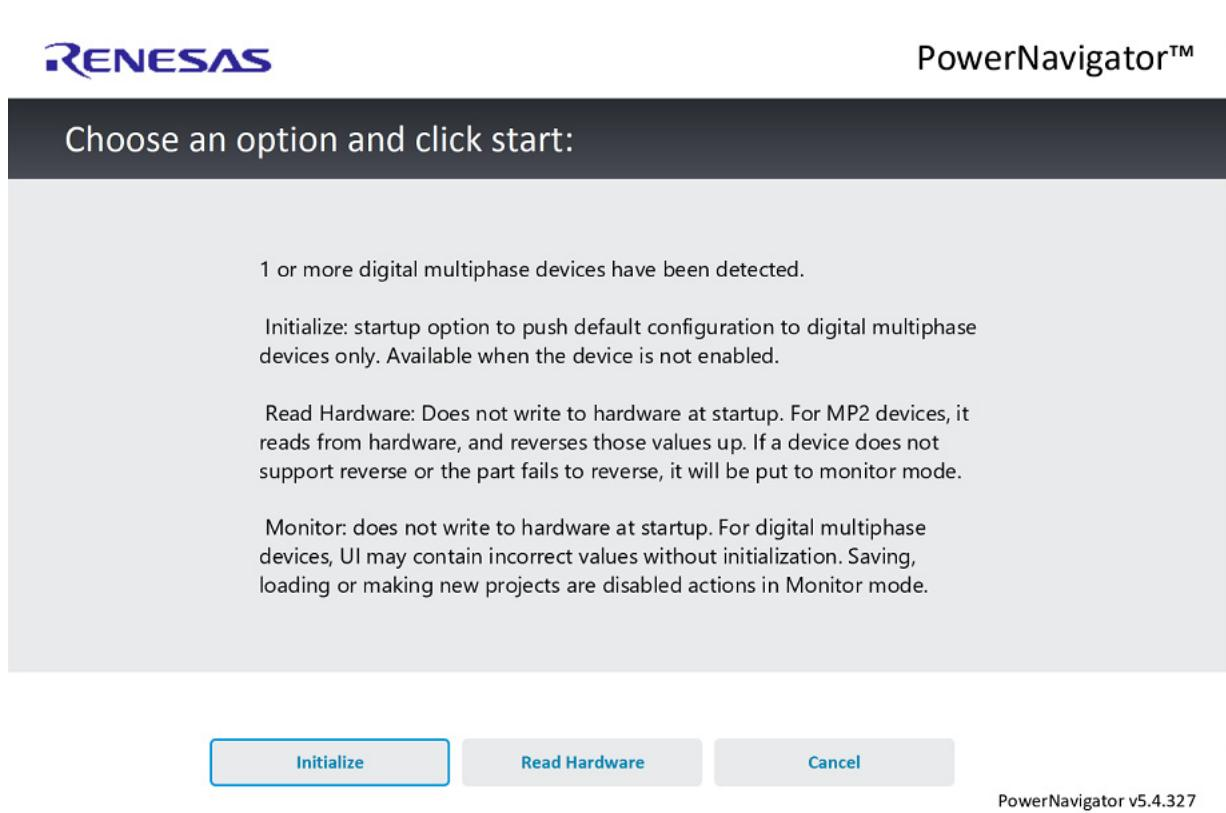
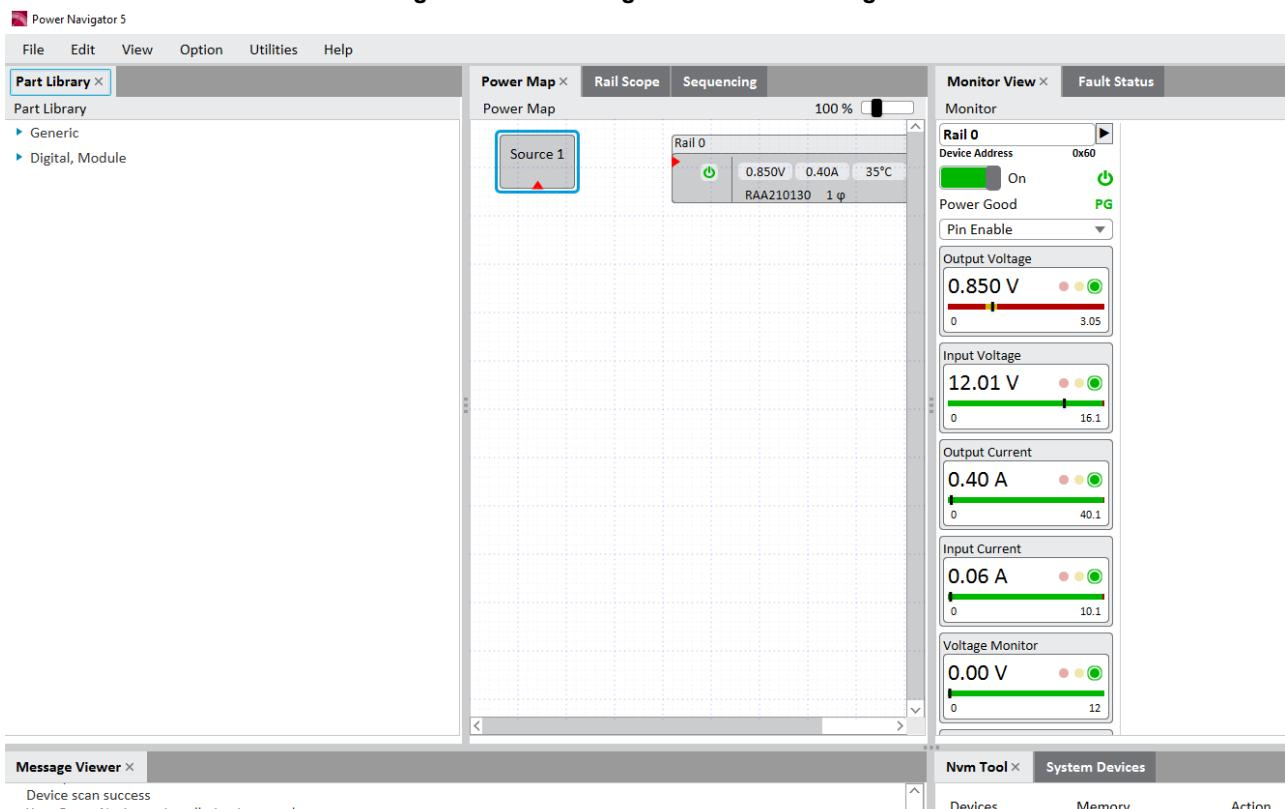

Figure 3. PowerNavigator Initialization Page.
Figure 4. PowerNavigator Monitor View Page.
9. Hit the **Start** button. Hit **Read Hardware** in the next screen as shown in Figure 3. A new page shown in Figure 4 appears.